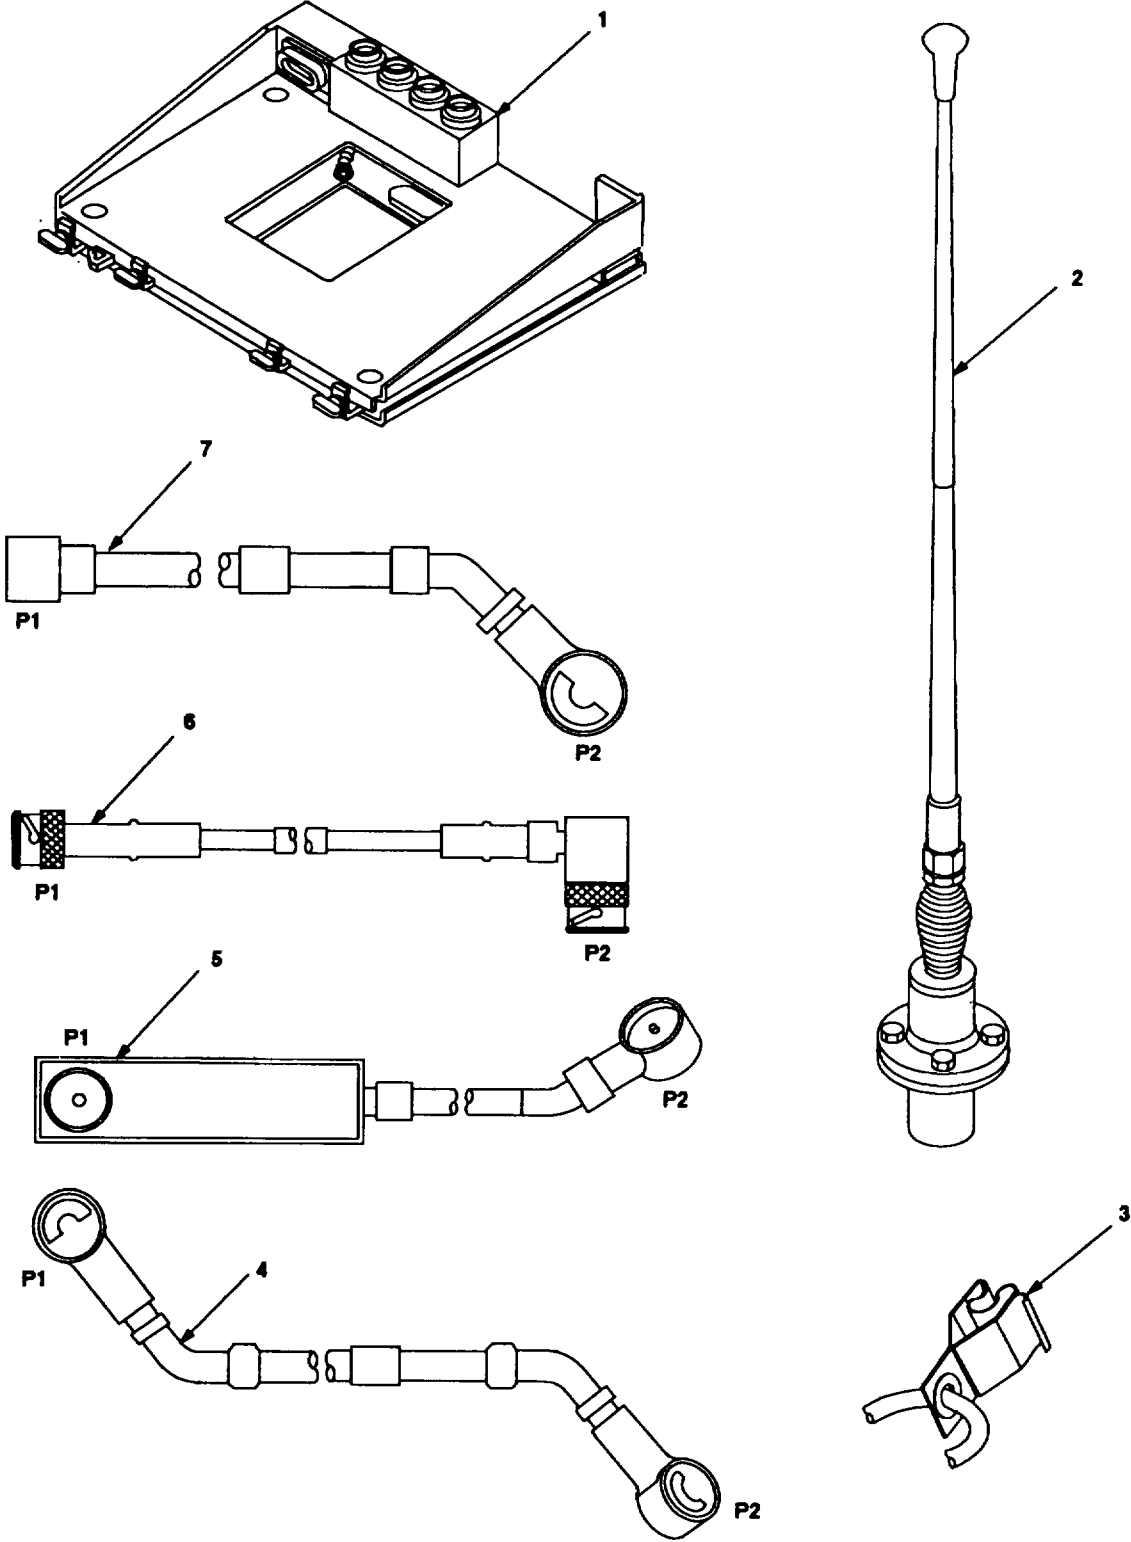
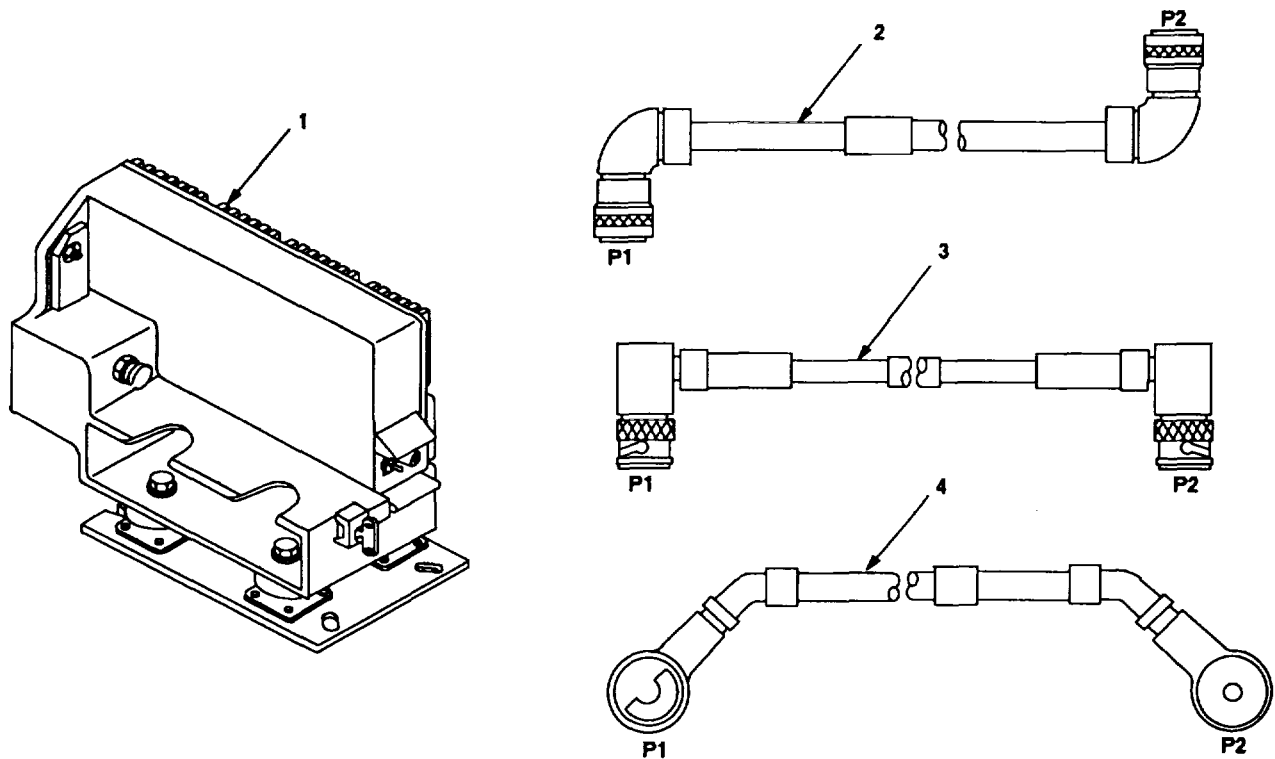
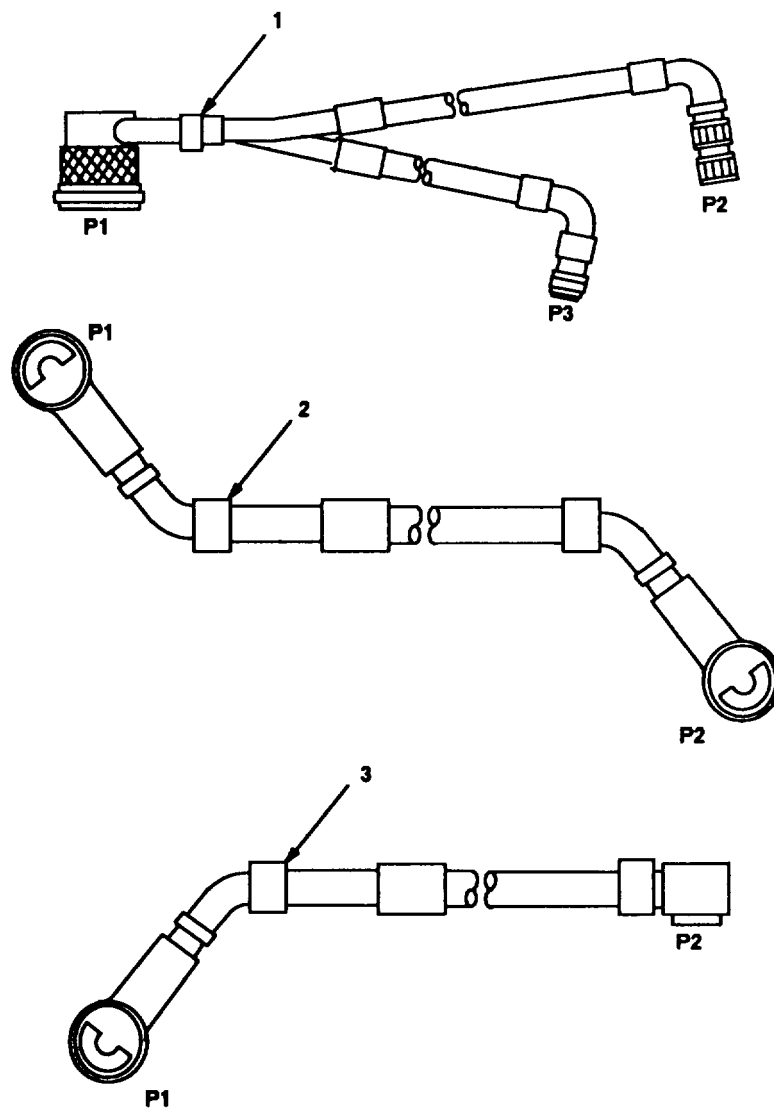

Figure 4-1. MK Illustrated Parts List
Figure 4-2. Illustrated Parts List for Table 4-2
Figure 4-3. TSEC/KY-57 Illustrated Parts List
**4.3.1 Items Supplied in MK and/or Required for Installation.** Use Table 4-1 and figure 4-1 to identify and inventory MK parts supplied to install Radio Set AN/VRC-92 Series. Refer to Table 4-2 and figure 4-2 to identify additional items required to install Radio Set AN/VRC-92 Series. Refer to Table 4-3 and figure 4-3 to identify additional items required to install when using RT-1439/VRC.